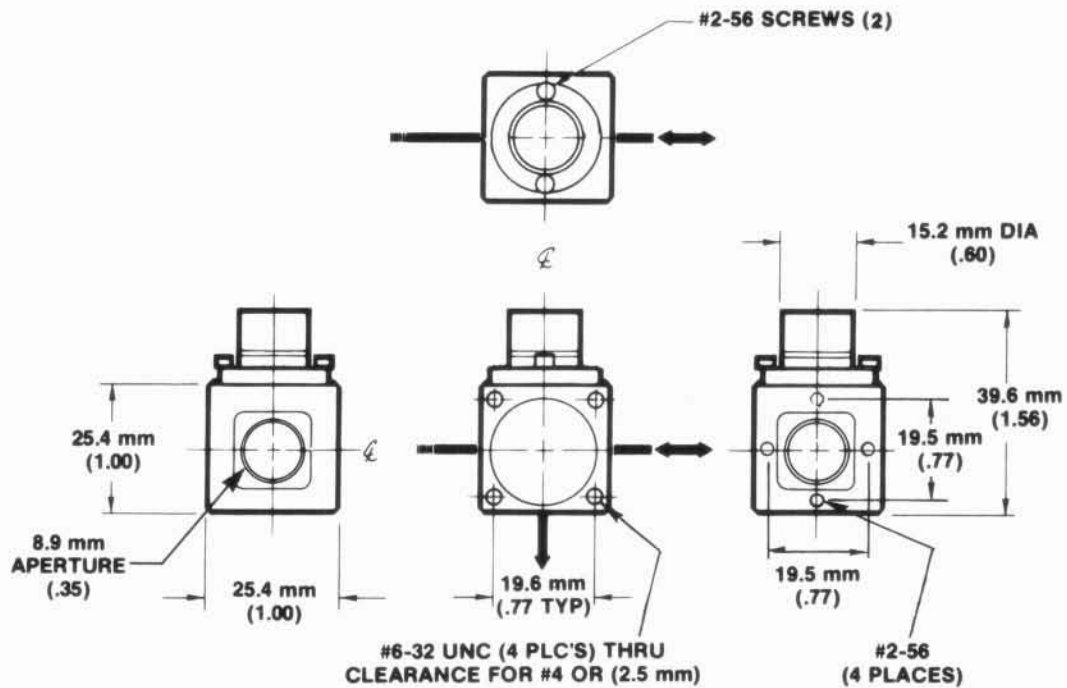

Figure 8-5. HP 10705A Single Beam Interferometer, Dimensions
**Dimensions:** See Figure 8-5.